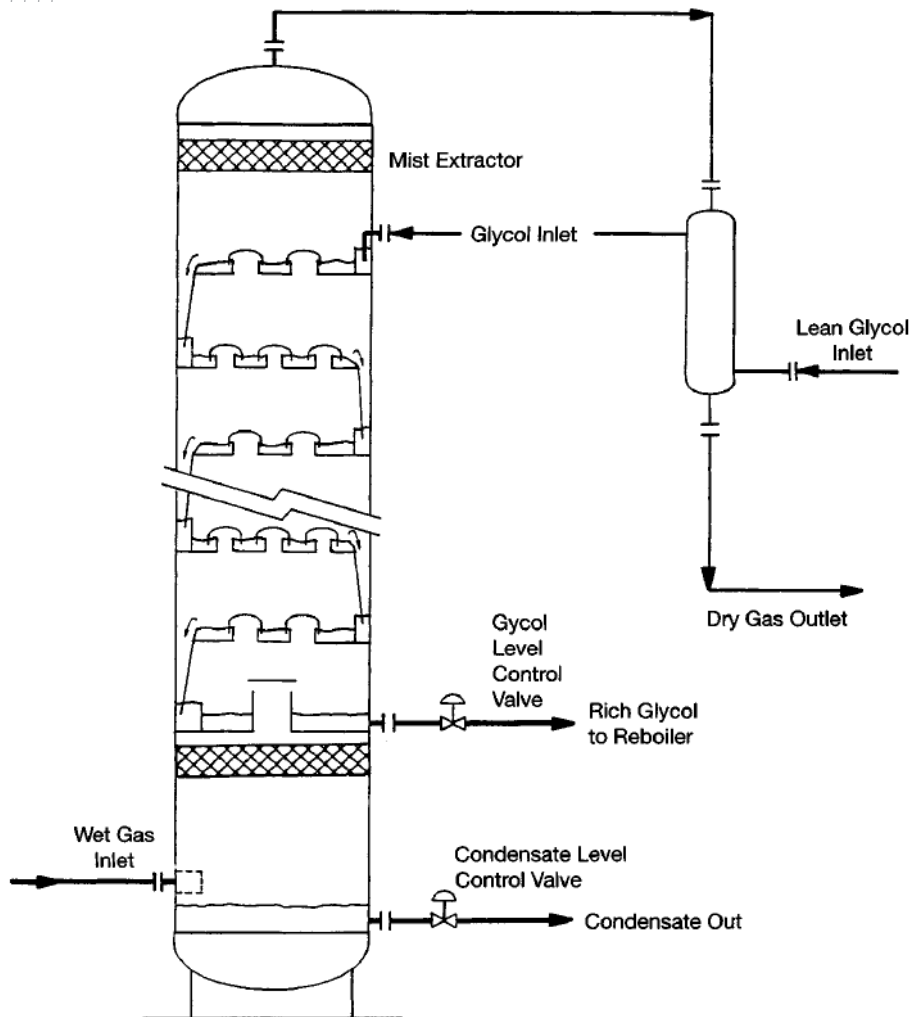

Figure 2-16. Typical glycol contact tower.
- Figure 2-16 shows how a typical bubble-cap glycol contact tower works.